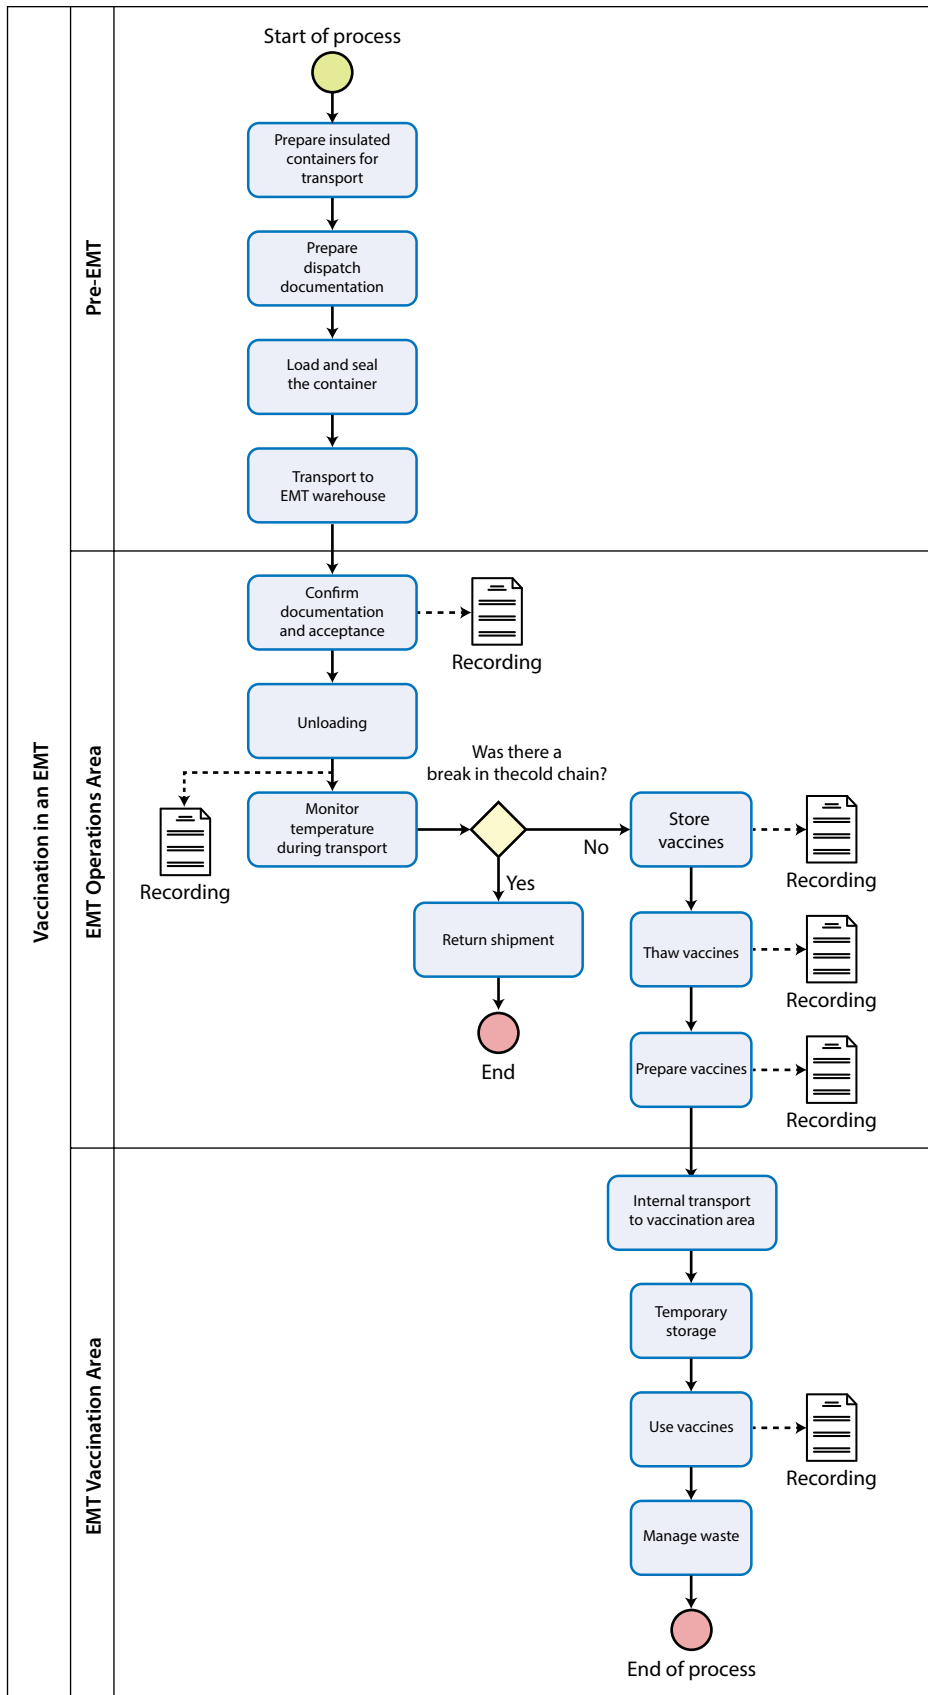

Figure 4. Vaccine flowchart
The vaccine flowchart (Figure 4) shows the steps that vaccines must follow from their departure from the warehouse to waste management after the vaccines have been used.
- Rooms and equipment must be adapted to the state and maintenance of the vaccine. To aid in adapting the diagram in Figure 4 to your situation, the cells in the diagram may be colored with a specific color, depending on what vaccine temperature range is used in that step of the process. This will offer better understanding of the design needs of the rooms and necessary equipment so that the cold chain can be correctly maintained. The use of posters with the specific color of the temperature range on equipment and in rooms can help to clarify other aspects, such as the PPE that has to be worn when working with specific equipment and in specific rooms.